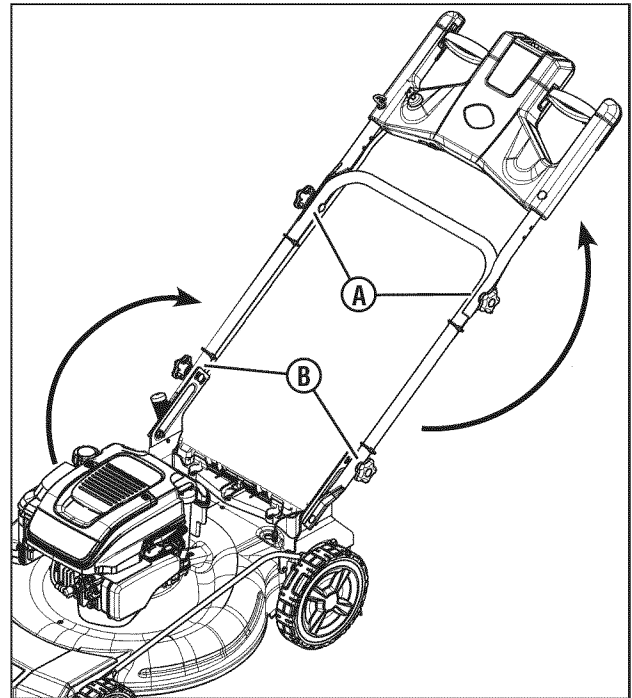

Figure 2: Raising the handle assembly
1. Loosen, but do not remove, the knobs (**A**, **Figure 2**) on both sides of the upper handle.